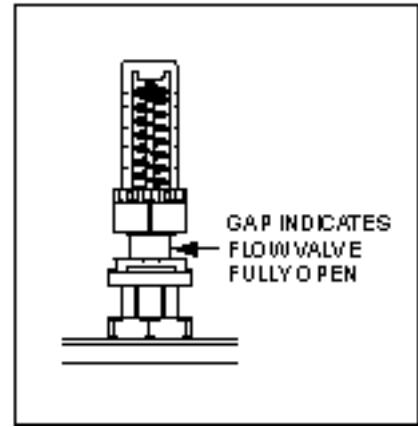

Figure 9c
- c) Open flow control part of valve fully by turning anti-clockwise (fig. 9c).